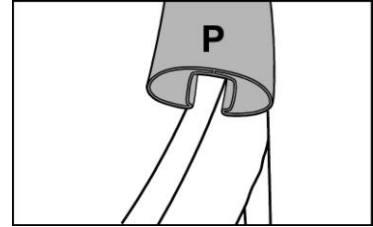

fig. 26
3- Press down starting at one end of the plastic profile (P) (fig. 26). In this way, it will be easy to match the profile, because it's been designed to fit with some pressure (so, inserting it at the same time would be more difficult). Follow the same process for the rest of the plastic profiles, joining the profiles between them as in the 1st step. Don't put the last section yet.